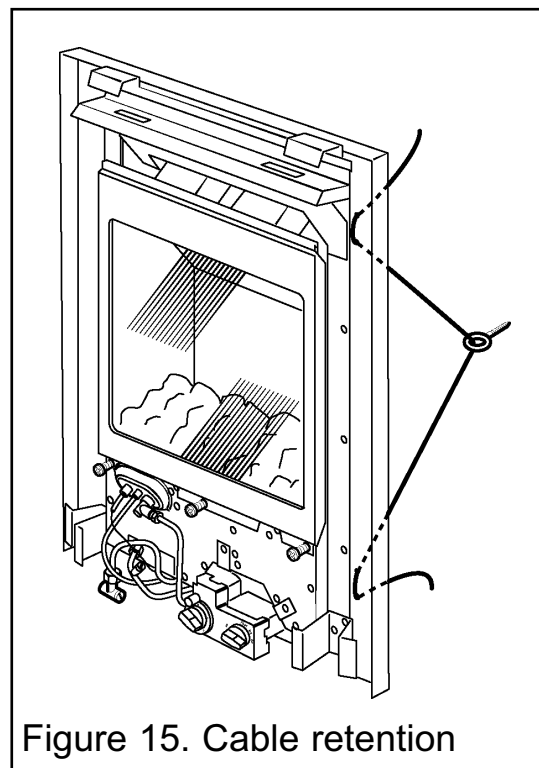

Figure 15. Cable retention
- Thread the two tension cables through the appliance case side holes as shown in figure 15.
- Cable retention: Fit the eyebolts onto the cables. Thread the cables through the appliance case sides as shown in figure 15. Offer the fire complete with flue unit through the wall. Pull the cables taut.